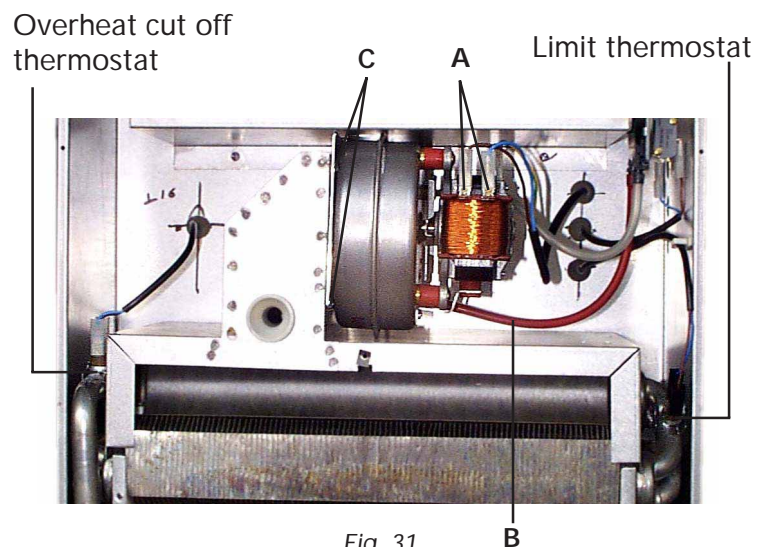

Fig. 31
7.10 Removal of fan (fig. 31)
7.11 Limit thermostat, or overheating cut off thermostat (fig. 31)
- Identify the location of thermostat from fig. 31